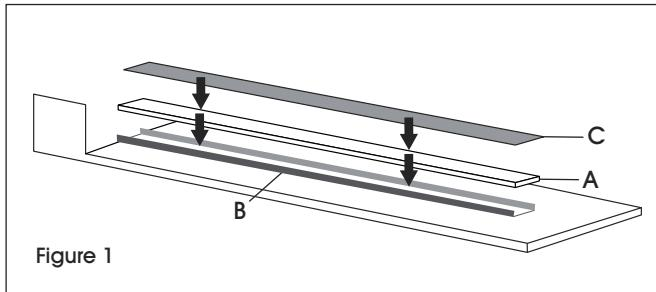

Figure 1
2. Place new silicone rubber pad (A) inside metal channel (B). (See Figure 1)